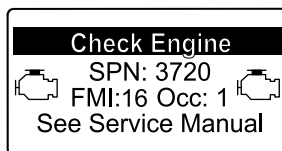

Figure 48
- Engine warning SPN 3720, FMI 16 (Figure 48)